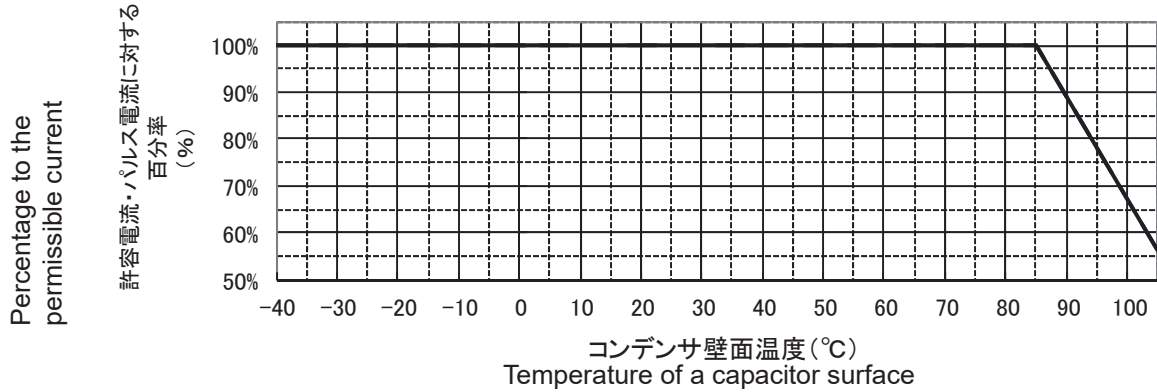

Fig.2 PERMISSIBLE TEMPERATURE RISE DERATING VS. SURFACE TEMPERATURE OF A CAPACITOR
* Make sure own temperature rise is within the permissible value shown in Fig.2 when the temperature of a capacitor rises by continuous pulse current.